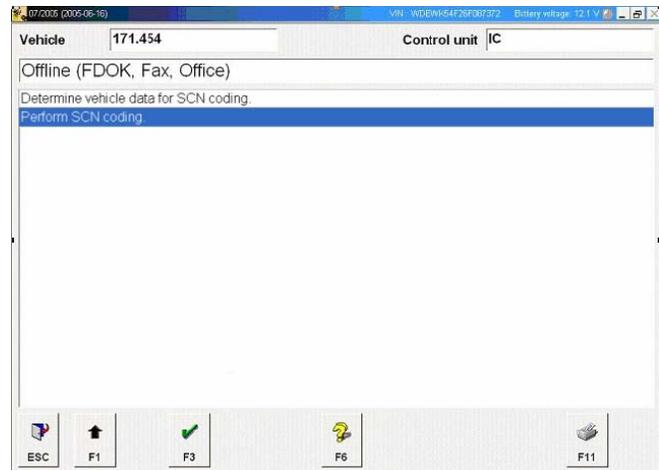

Figure 10
1. Select 'Perform Offline SCN Coding', Press 'F3' (Figure 10).